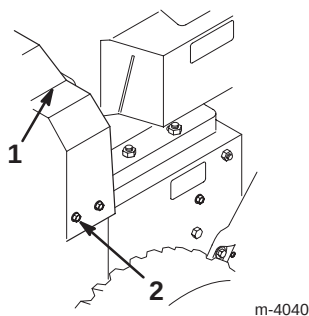

Figure 29
3. Remove the three bolts that hold the belt cover in place and set the cover aside (Fig. 29).